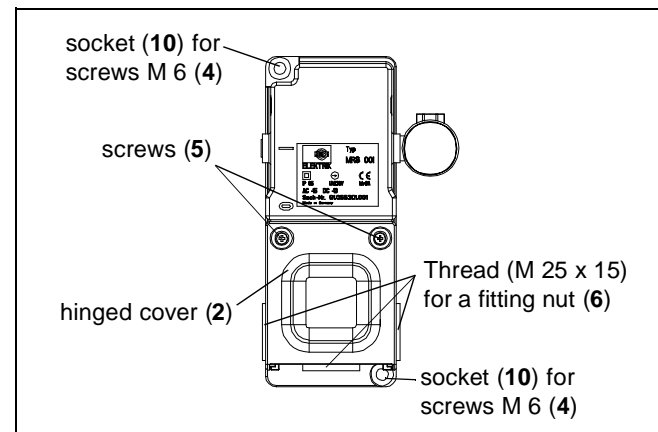

Fig. 5-4: Mounting and dismounting
4. Open the hinged cover (2) of the misalignment switch by loosening the two screws (5) (s. fig. 5-4).
5. Put the connection cable through the fitting nut (6) (s. fig. 5-4).
7. Close the hinged cover (2) of the misalignment switch and retighten the two screws (5) (s. fig. 5-4).
1. Open the hinged cover (2) by loosening the two screws (5) (s. fig. 5-4).
3. Unscrew the fitting nut (6) and pull the connection cable out of the misalignment switch (s. fig. 5-4).
4. Loosen the two screws M 6 (4), and remove the misalignment switch (s. fig. 5-4).